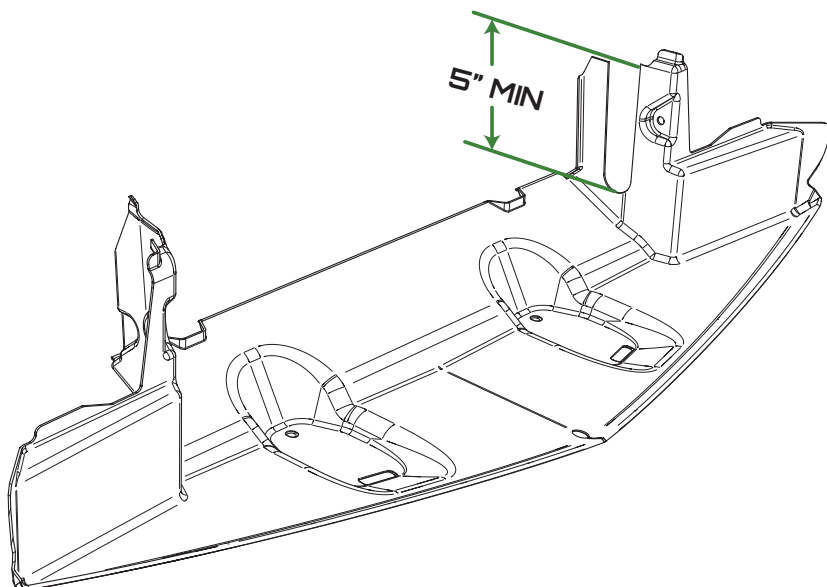

Figure 21 - Trimmed Black Plastic Lower Radiator Shroud
2. Cut the black plastic, lower radiator shroud as shown in Figure 21.